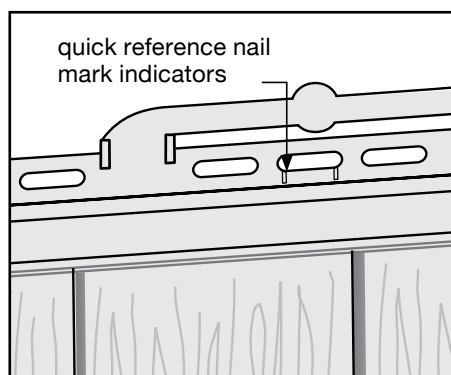

figure 2
3. Fasten the panel to the wall by first nailing through the round center hole in the nailing hem at the top of the panel. Continue nailing the panel with 5 nails: one in the right-end nail slot and one at each of the QuickReference™ Nail Mark Indicators (figure 2). Leave 1/8" to 1/16" between the nail heads and the panel to allow freedom of movement during normal expansion and contraction. The S7 panel features NailStop™ to guide in correct nail head clearance.